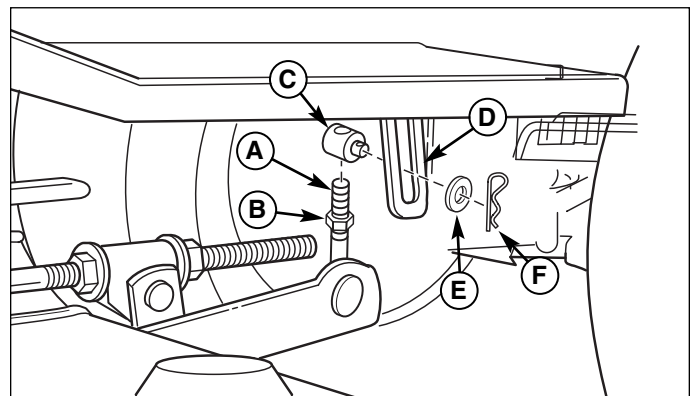

Figure 49. Cutting Height Adjustment
The transport height and ground following ability can be adjusted. Raising the trunnion (C, Figure 49) on the J-hook (A) will adjust the deck into the greatest ground following ability and the lowest transport position, when the deck is lowered. Lowering the trunnion on the J-hook will give the highest transport position and decrease the deck's ground following ability, when the deck is lowered.
1. Loosen jam nut (B, Figure 49).
2. Remove the hair pin (F) and washer (E) from trunnion (C).
3. Remove the trunnion (C), J-hook (A) and jam nut (B) from tractor lift arm (D).
4. Turn trunnion (C) up or down to adjust height.
5. Place trunnion (C), J-hook (A) and jam nut (B) in tractor lift arm (D). Install washer (E) and hair pin (F). Tighten jam nut (B).